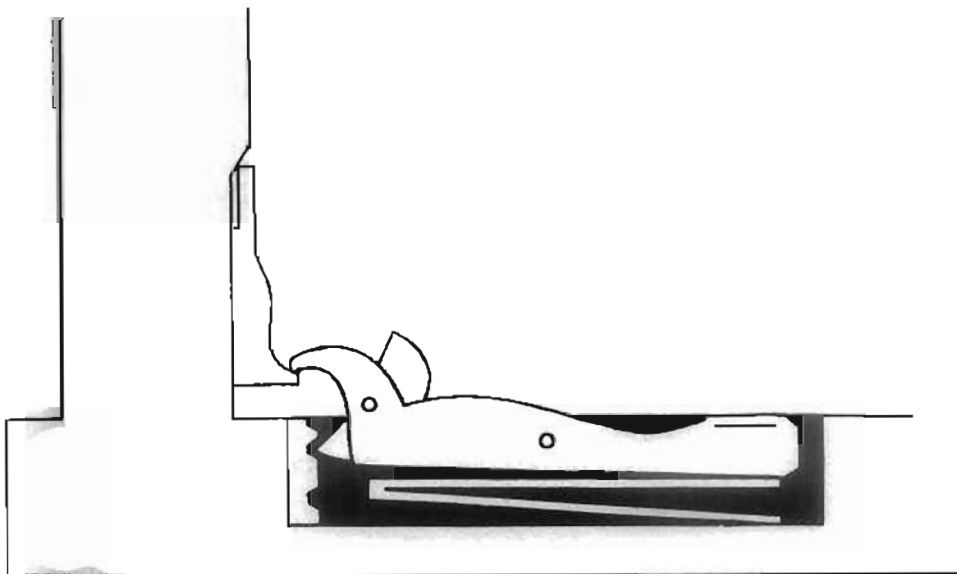

Figure 27
- b. As gun recoils, operating handle moves to rear over operating handle plunger. This movement causes toe of breechblock latch and pawl to ride up on the small projection of operating handle plunger block (fig. 27).